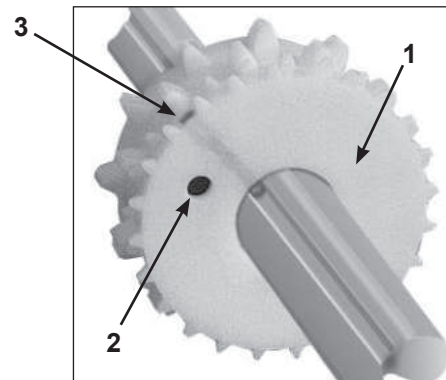

Fig 16
For sowing fine seeds the Renovator Classic Drill is equipped as standard with a combined normal and fine seed "Elite" metering wheel (1). During grain sowing and other larger varieties of seed both the normal and fine seed metering wheels are coupled and both rotate. In order to convert the seed drill to sow fine seed insert the crank handle and rotate clockwise until the holes (2) of the fine seed wheel are visible (Fig 16)
Care should be taken when tightening the grub screws on the fine seed wheel (Page 23, Fig 16, item 3). Adjust the grub screw until the movement of the metering wheel just stops, then tighten no more than 1/8 of a turn.